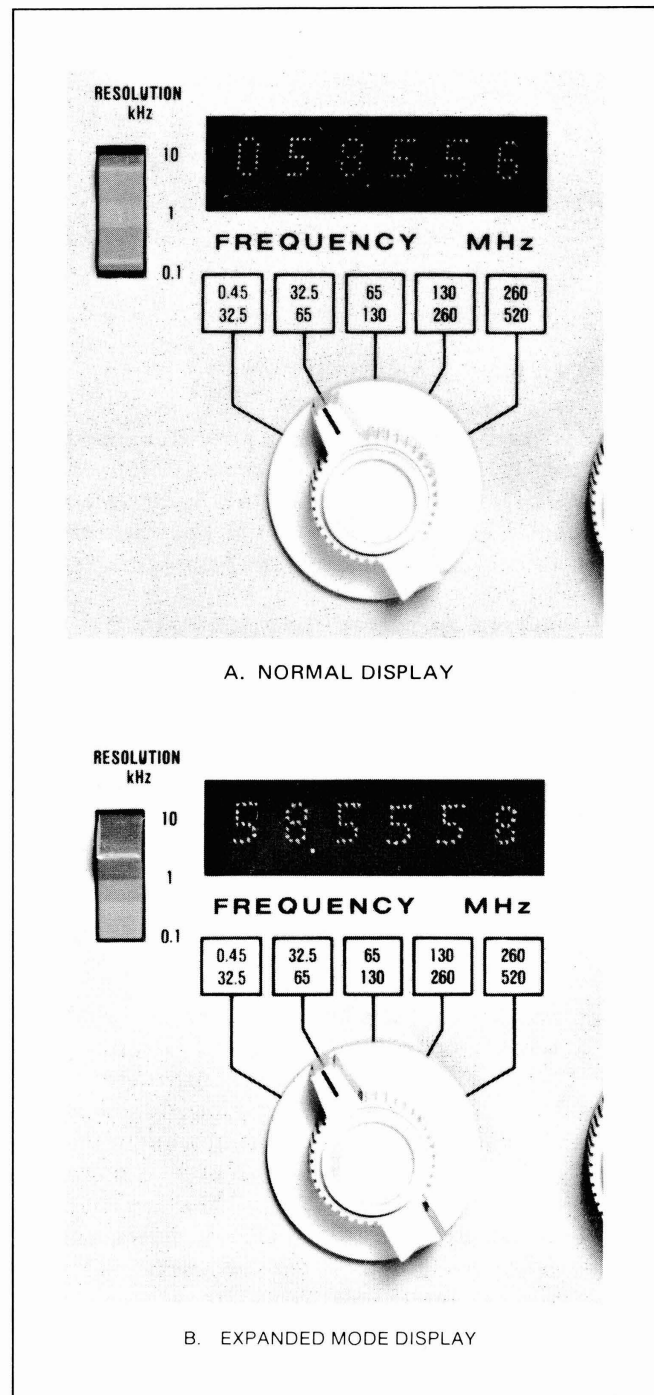

Figure 1-4 LED Frequency Display
c. **LED Frequency Display.** The output frequency of the Model 102D is continually displayed during use by means of a 6-digit LED display. The elimination of a tuning dial, with its recalibration problems and inherent reading uncertainty, removes a major source of operator error. The LED display provides clear, unambiguous readings with selectable resolution, minimizing the possibility of misinterpretation. (See Figure 1-4.) Resolution of 0.1, 1, or 10 kHz can be selected by means of a front-panel switch.